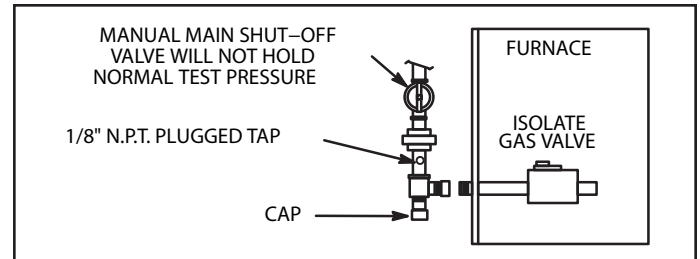

Figure 49.
5. A 1/8" N.P.T. plugged tap or pressure post is located on the gas valve to facilitate test gauge connection. See Figure 49.
When testing pressure of gas lines, gas valve must be disconnected and isolated (see Figure 49). Gas Valves can be damaged if subjected to pressures greater than 1/2 psig (3.48 kPa).